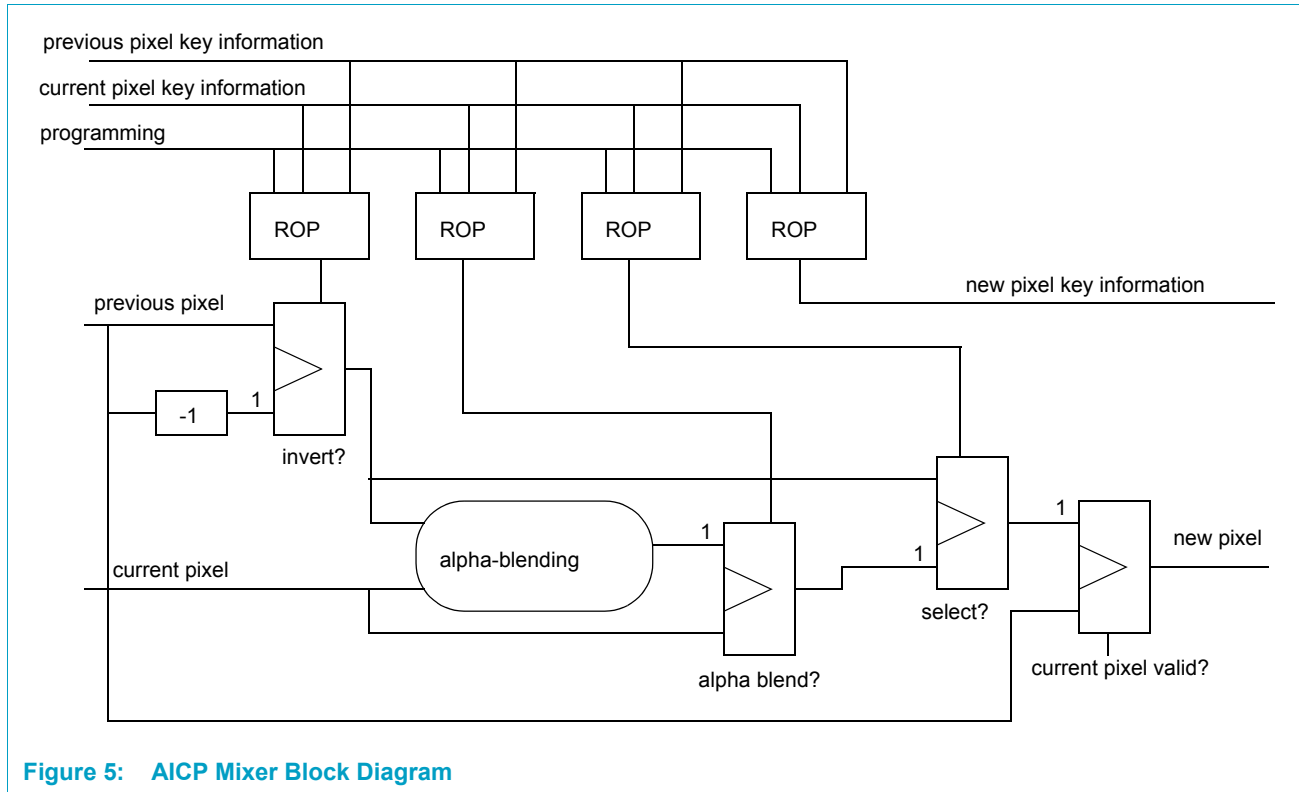

Figure 5: AICP Mixer Block Diagram
Each AICP layer provides the pixel stream corresponding to its image. The AICP mixers, shown in Figure 5, compose all layers back-to-front to produce an output picture. In general, a mixer takes two pixel streams, one from the previous layer, another from the current layer. Both pixel streams have specific mixing information associated with each input pixel. That means, in detail, every pixel comes with an alpha, four color keys, a previous key, a new pixel key1 and a new pixel key2 information. By programming multiple raster operations (ROPs), software can control whether a pixel is: